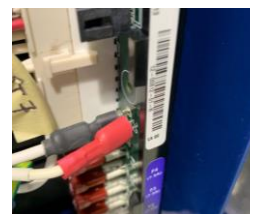

**Figure 5b: Lubricant (item 3) to be applied to Micro-USB connection**
9. Apply electrical contact dielectric grease to the micro-USB connector on the ML3/ML5 and the micro-USB plug. See figure 5b.